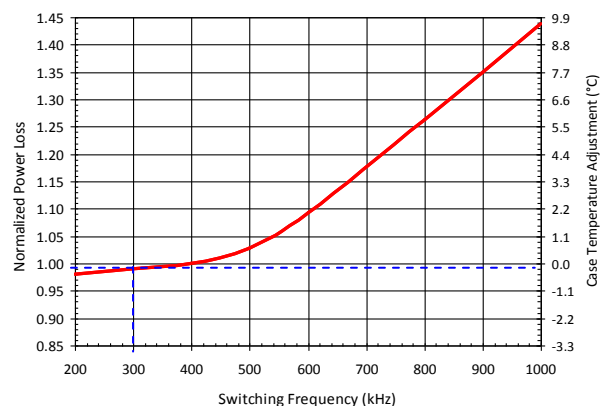

Figure 13: Normalized Power Loss vs. Switching Frequency
- 4) Determine the switching frequency normalizing factor with  $f_{SW} = 300kHz$ , which is 0.99 based on the dashed lines in Figure 13.